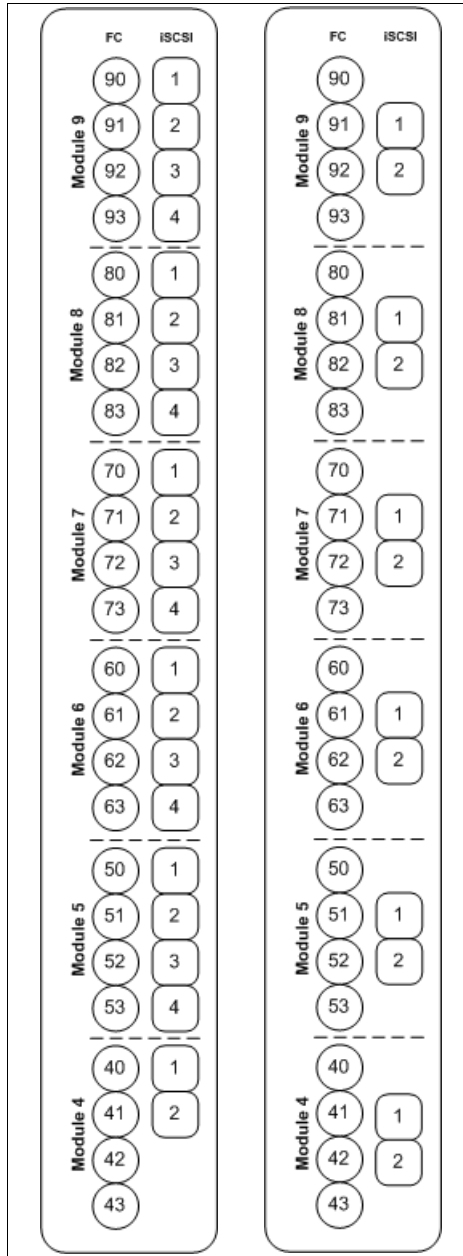

Figure 2-3 XIV WWPN determination for both 1-Gb and 10-Gb options
The module/port (MP) value that makes up the last two digits of the WWPN is shown in each small box in Figure 2-3. The diagram represents the patch panel that is at the rear of the XIV rack and shows both 1-Gb and 10-Gb iSCSI options, although that does not affect the WWPN.